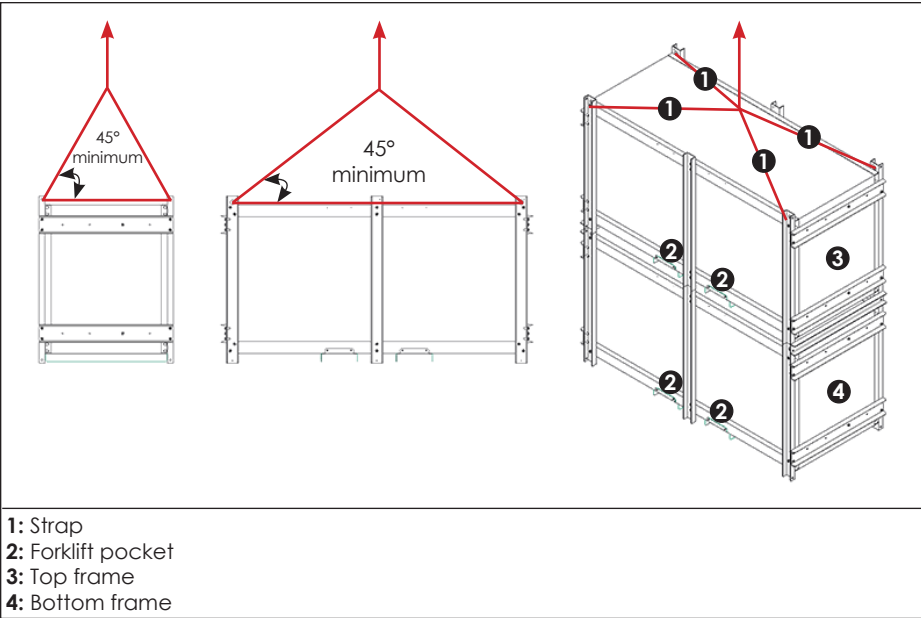

Figure 2: Strap Angle (Front & Side View)
2. Ensure the straps are at a minimum 45° angle or greater if using a crane/straps to lift the frames. Refer to **Figure 2**.